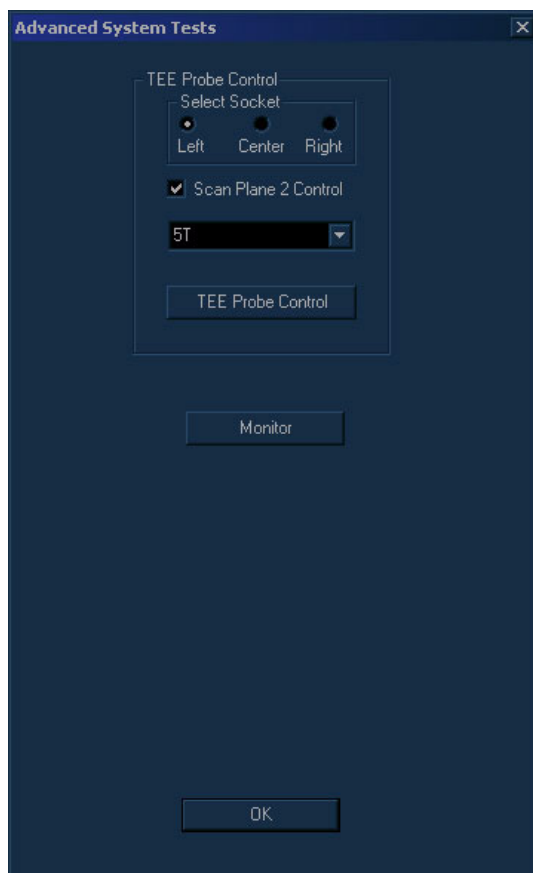

Figure 7-34 MUX Advanced System Tests Options
- 2) Trackball to the **Advanced board tests** button and press **Select**. The *Advanced System Tests* options are displayed, as shown in Figure 7-34 on page 7-59.